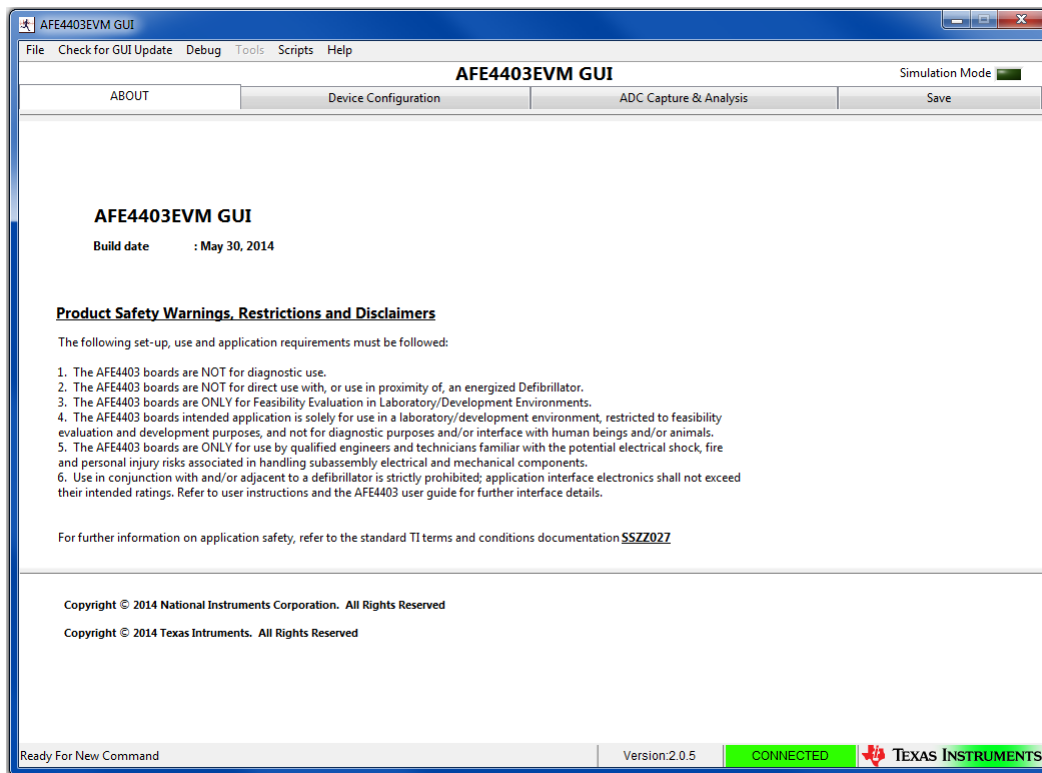

Figure 22. Product Safety Warnings, Restrictions and Disclaimers
- *About* – Product Safety Warnings, Restrictions and Disclaimers (see Figure 22).